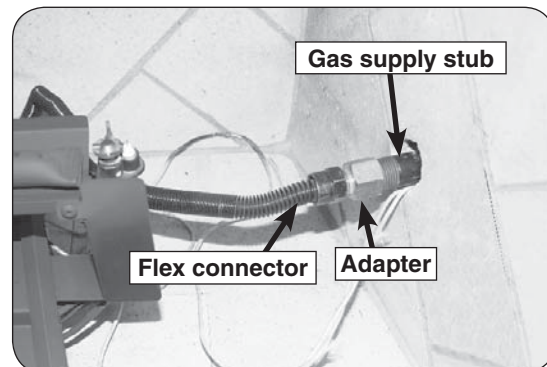

Fig. 13-1 Connect gas supply
10. **Be sure gas to the fireplace is off.** Remove the adapter connected to the flex connector (pre-installed on the burner system). Attach the adapter to the gas-supply stub using a pipe compound resistant to all gasses. Tighten securely. Then attach the open end of the flex connector to the adapter. Tighten securely (see Fig. 13-1).